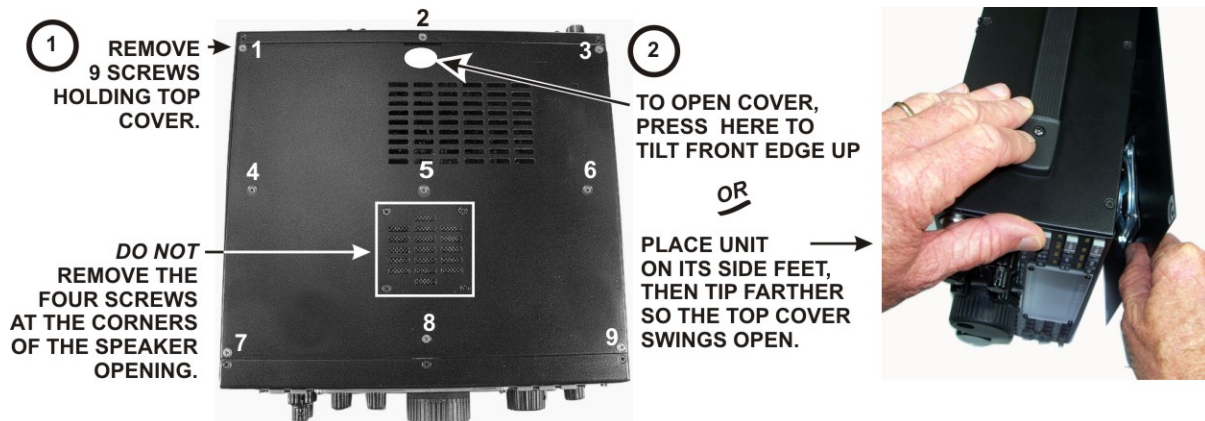

Figure 1. Removing the Top Cover
- Remove the top cover as shown in Figure 1. After the cover is open, lift it gently to reach the speaker wire connector. Unplug the speaker then set the top cover aside in a safe place.
- Position the top cover on the K3. Note that the tab on the back center goes under the rear lip of the K3 rear panel. Secure the top cover with the nine 4-40 3/16" (4.8 mm) black flat head screws you removed earlier (see Figure 1).